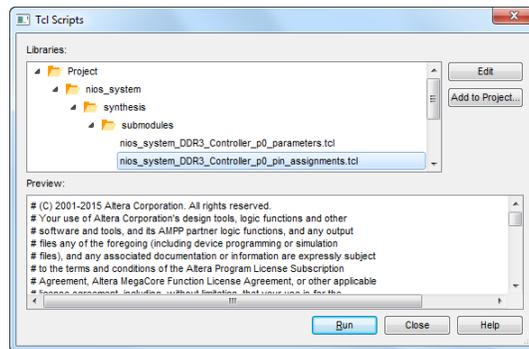

Figure 12. TCL Scripts window in Quartus Prime.
- Click Tools > Tcl Scripts... to open the window in Figure 12. Select and run the script Project > nios_system > synthesis > submodules > nios_system_DDR3_Controller_p0_pin_assignments.tcl; the script is required to correctly set the differential pins needed by the DDR3 SDRAM Interface.